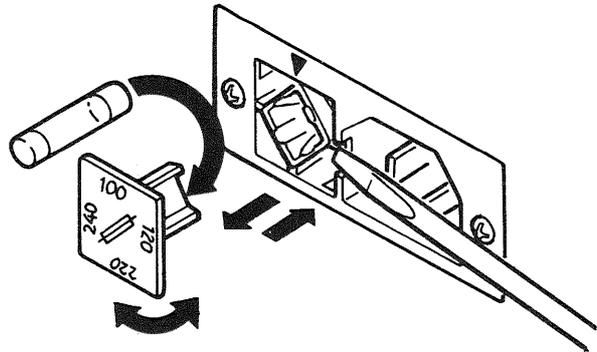

Fig. 28
2. Remove the fuse holder in the rear panel using a standard screwdriver (see Fig. 28).
Remove the fuse holder in the rear panel using a standard screwdriver. Then set the label of your line voltage to the mark ▼ and plug the fuse holder back into place. When changing the supply setting from 100/120 V to 220/240 V, change the 0.8 A (0.5 A) fuse for a 0.5 A (0.3 A) one. (see Fig. 28)